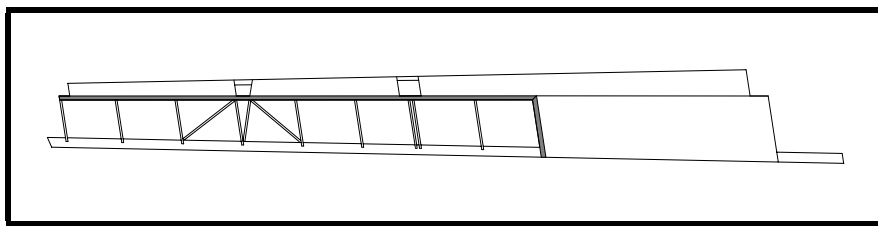

Figure 27
- ❑ Fit and install the lower trailing edge skin between Sta. 2 and 6. See Figure 27. Although the aileron/flap assembly is torsionally rigid at this stage of construction, the trailing edge can still be bowed and made into a wavy affair by poor clamping technique. It is best to clamp the skin to the trailing edge by sandwiching the trailing edge between two straight boards. Some builders use heavy gauge aluminum angles—find something that is straight and use it.